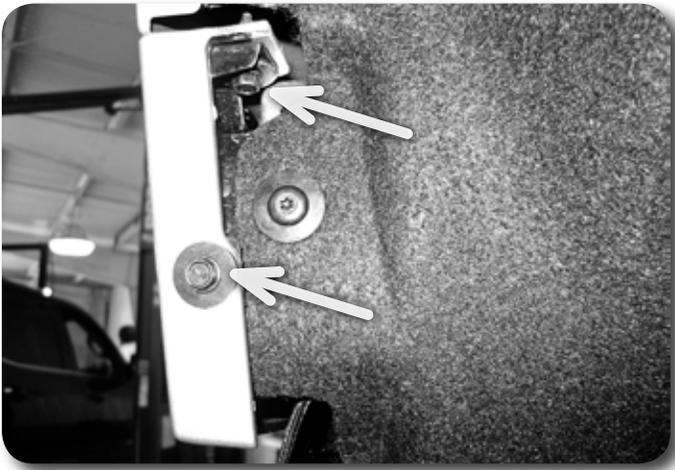

Figure 3
3. Using a 7mm socket, remove the two bolts attaching the lower grill valence to the inner fender well on both sides. **Figure 3**